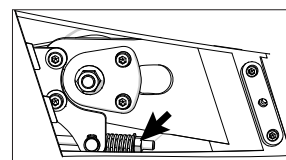

Figure 5
4. Turn the nut clockwise one full turn. Ride the bike at high resistance. If you still experience slippage, turn the nut clockwise one more full turn. Repeat until there is no slippage. (Figure 5).